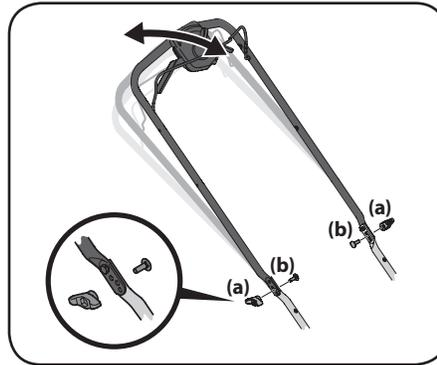

Figure 2-15
1. Remove wing nuts (a) and carriage bolts (b) from handle. See Figure 2-15.
2. Position the handle in one of the three positions that is most comfortable. See Figure 2-15 inset.